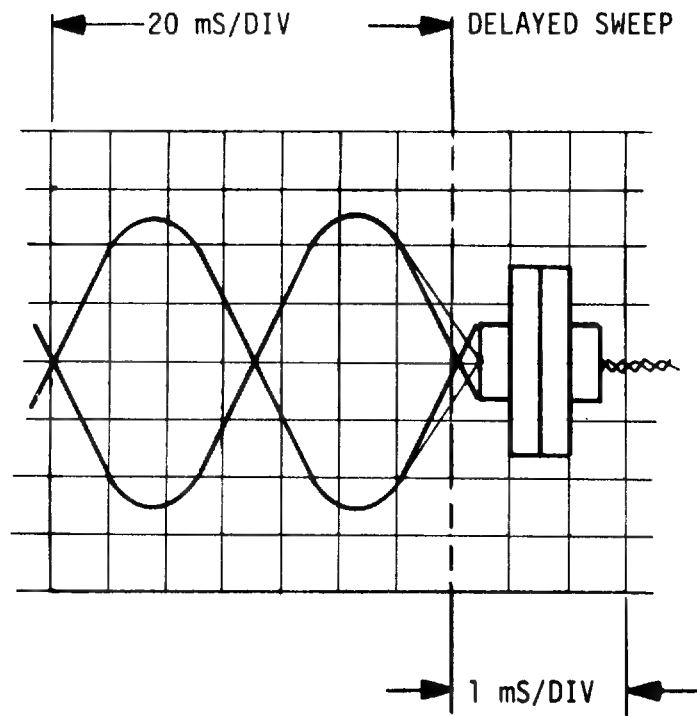

Figure 2-7C. Cat Eyes and Head Azimuth Display
- g. Adjust assembly for correct head azimuth. See Figure 2-7C. Head azimuth is within acceptable tolerance when the data bursts seen on the delayed time base indicate the head is within ± 12 minutes of true position. However, head azimuth interacts with machine azimuth: therefore, for head sector drives best results are obtained by setting head azimuth as close as feasible. This gives best tolerance of parameter variation. If necessary, to meet machine azimuth timing by cancelling tolerances, head azimuth may be relaxed to ± 12 minutes of arc.